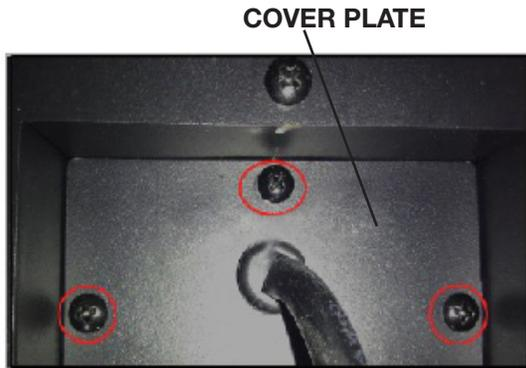

FIG. 1
- A. Remove the cover plate from the right side bottom of the appliance by removing the 3 screws (FIG 1).
- E. Reinstall the cover plate using the 3 screws (FIG. 1).